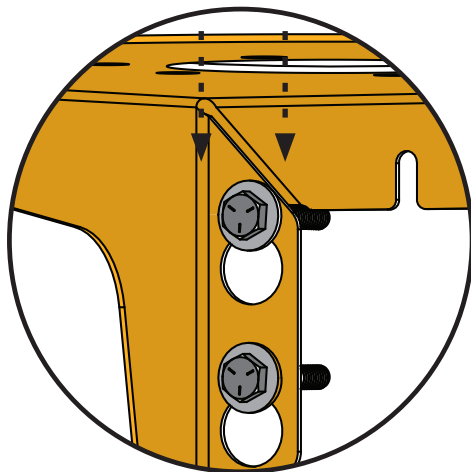

FIG. 6
Slide the Wall Bracket (F) down so that the fastener is snugly inside the smaller section of each keyhole [FIG. 6].